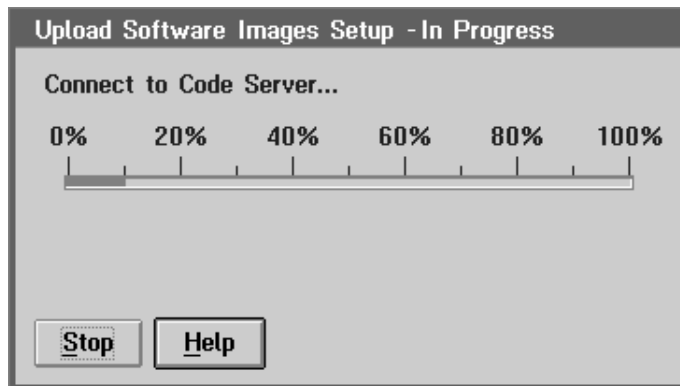

Figure 152. Upload software images setup – in progress window
- 2 Select **Diskette** or **CD-ROM** and the letter of the diskette or CD-ROM drive. Click on **OK**. The Upload Software Images Setup – In Progress window is displayed, as shown in Figure 152.